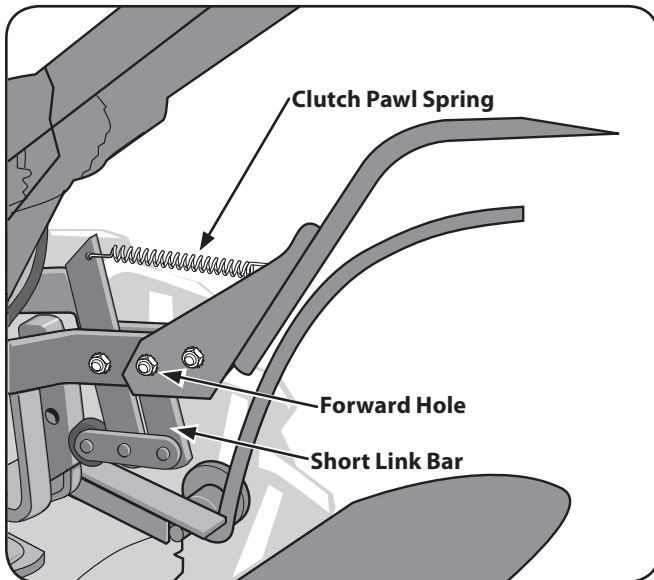

Figure 3-10
- Pull the Wheels/Tines/PTO Lever back to align the forward most holes in the yoke plate with the holes in the lever plates. Also align the bushing that is inside the short link bar. Install the screw, star washer, and nut, then tighten securely. Securely tighten all other hardware. Also ensure that the spring is properly seated at both ends. Completed assembly should appear as illustrated in Figure 3-10.